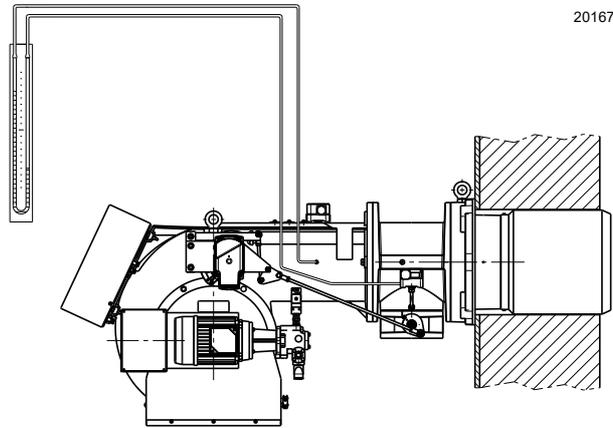

Fig. 31
- Fit a U-type pressure gauge or a differential pressure gauge (Fig. 31), with socket (+) on the gas pressure of the pipe coupling and (-) in the combustion chamber. Used to approximately calculate the MAX burner output.
The arrival of gas to the sleeve is indicated by the U-type pressure gauge (Fig. 31).